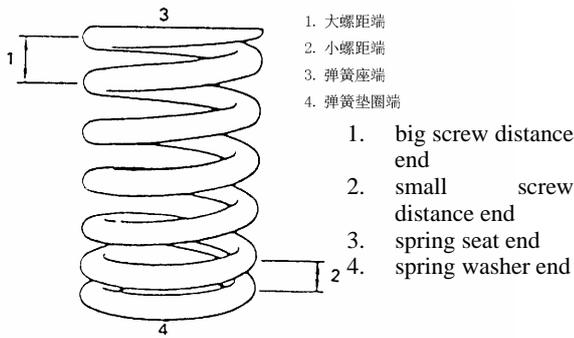

Fig. 4-122
4) Install valve spring and top valve spring seat as shown in Fig. 4-122.